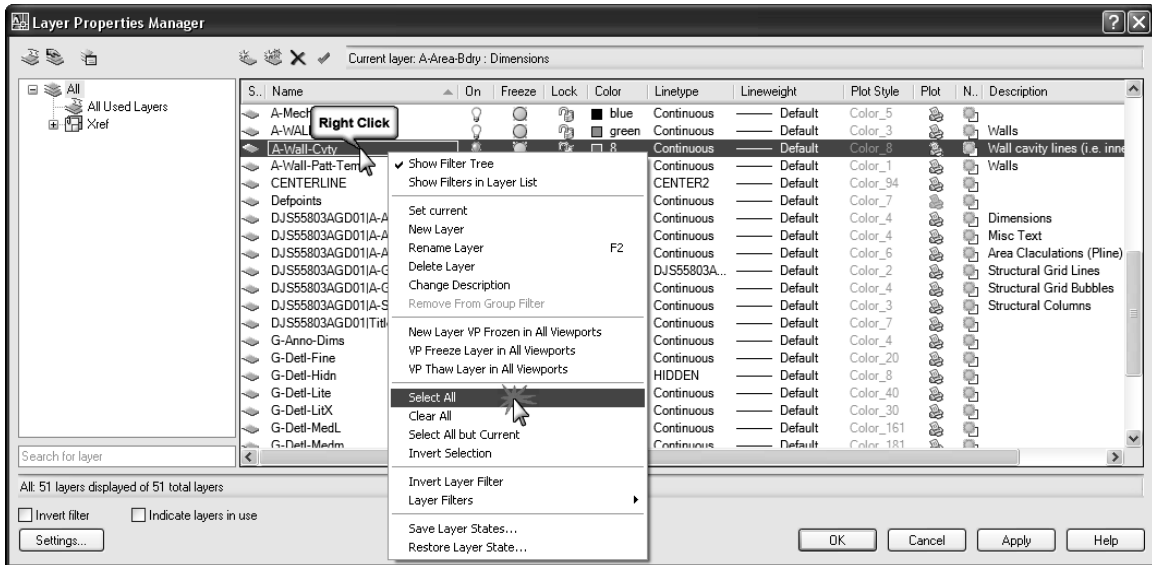
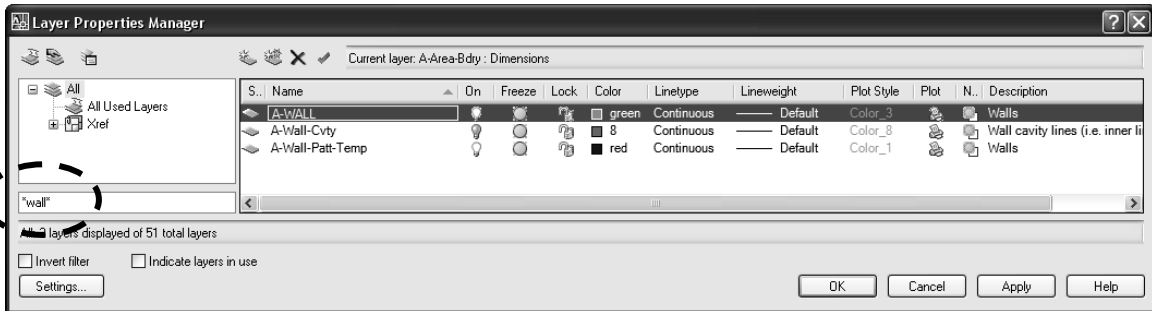

Figure 3-5.5 Layer Manager; right-click and pick "select all"
Figure 3-5.6 Layer Manager; search for "wall" layers
- Another method is to open the *Layer Manager* and right-click on any *Layer* name and click "**Select All**" from the pop-up menu. Then you can click any *Layer* icon that is "off" and all *Layers* will be turned "on" (see Figure 3-5.5).
Take a moment and notice the other tools available in the right-click pop-up menu shown in Figure 3-5.5.
In the text box (that has the light gray words "Search for layer") in the lower left of the *Layer Manager* (see Figure 3-5.5) you can type something like ***grid*** and see only the Layers that have the letter/word "grid" in it (e.g., A-Grid, A-Grid-Iden, DJSAGD01|S-Grid, etc). See the example below, in Figure 3-5.6, for an example where only the *Layers* with the word "**wall**" are listed.